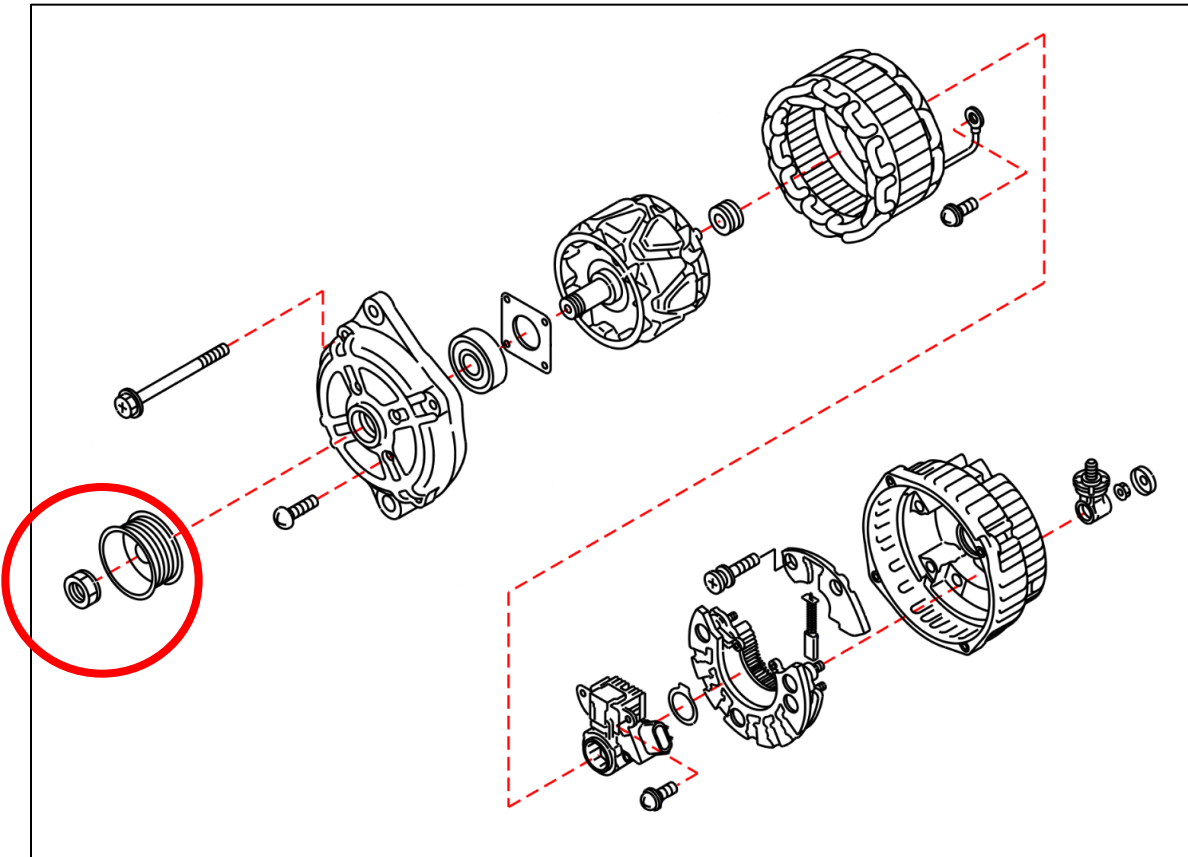

Figure 3
8. Locate the Alternator Pulley and remove the nut securing it. *Figure 3.*
9. Remove the OE Alternator Pulley. *Figure 3.*